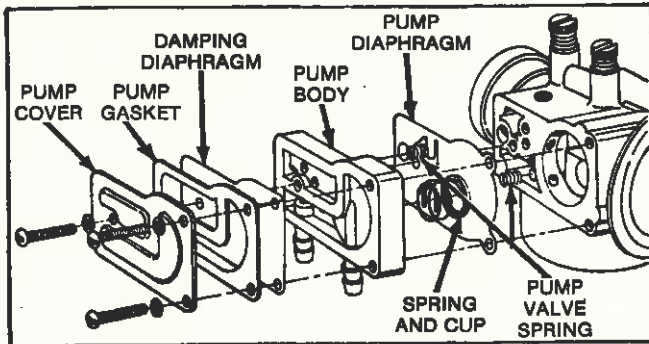
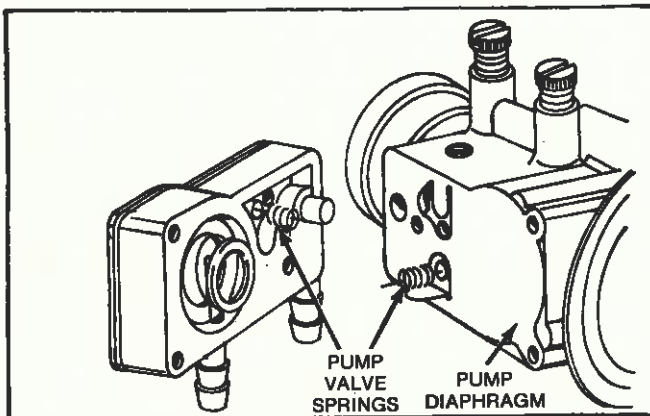

Fig. 105 — Assemble Fuel Pump
Fig. 106 — Pump Spring Location
Install main nozzle using blunt screw driver to prevent damage to slot and metering hole. Place bowl on carburetor and install bowl nut and washer. Install one (1) pump valve spring on spring boss, Fig. 106, and then place diaphragm on carburetor. Put pump spring cup and pump spring on diaphragm, Fig. 105. Place a pump valve spring on spring boss in pump body, Fig. 106, and place pump body on carburetor. Place damping diaphragm, pump gasket and pump cover on pump body and install three (3) screws. A fuel pump repair kit is available, see illustrated parts list for part number.